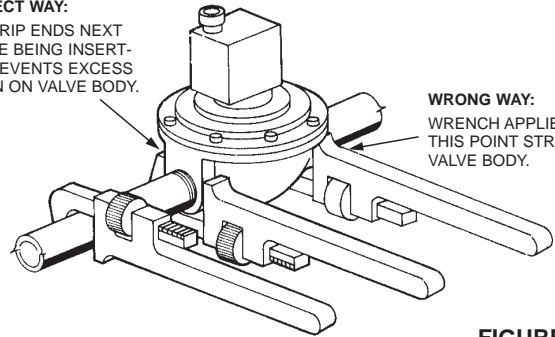

FIGURE 37
Install mechanical gas valve to its selected location in gas line so that it ensures safe shut-off to all predetermined appliances being protected upon actuation of the system. Mechanical gas valves may be mounted in any convenient horizontal or vertical position. See Figure 37.
- c. Wrench tighten pipe to gas valve. **DO NOT USE GAS VALVE AS A LEVER WHEN INSTALLING OR VALVE DAMAGE MAY OCCUR.** See Figure 37.